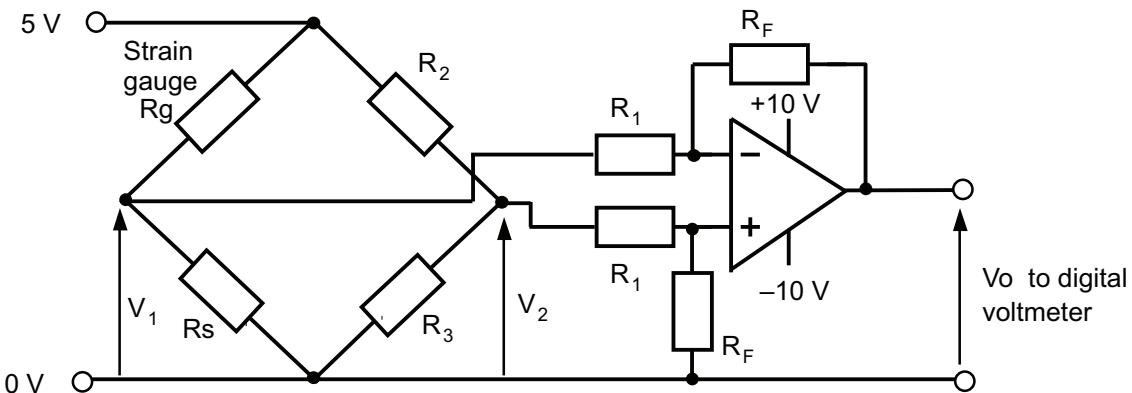

Fig. 1(b)
- (b) The system shown in **Fig. 1(a)** is to be altered to incorporate a weighing mechanism. This mechanism uses a strain gauge which is to be attached to the bottom of the tank. The proposed circuit for this is shown in **Fig. 1(b)**. A digital voltmeter, connected to the output from this circuit, will then display a number which will represent the approximate weight of the grain.
- (iii) The Op amp in **Fig. 1(b)** is connected as a difference amplifier having an output voltage, $V_o = (R_F/R_1)(V_2 - V_1)$. The output voltage V_o is to range from 0V to $+0.2V$ as the gauge resistance is increased by 1%.